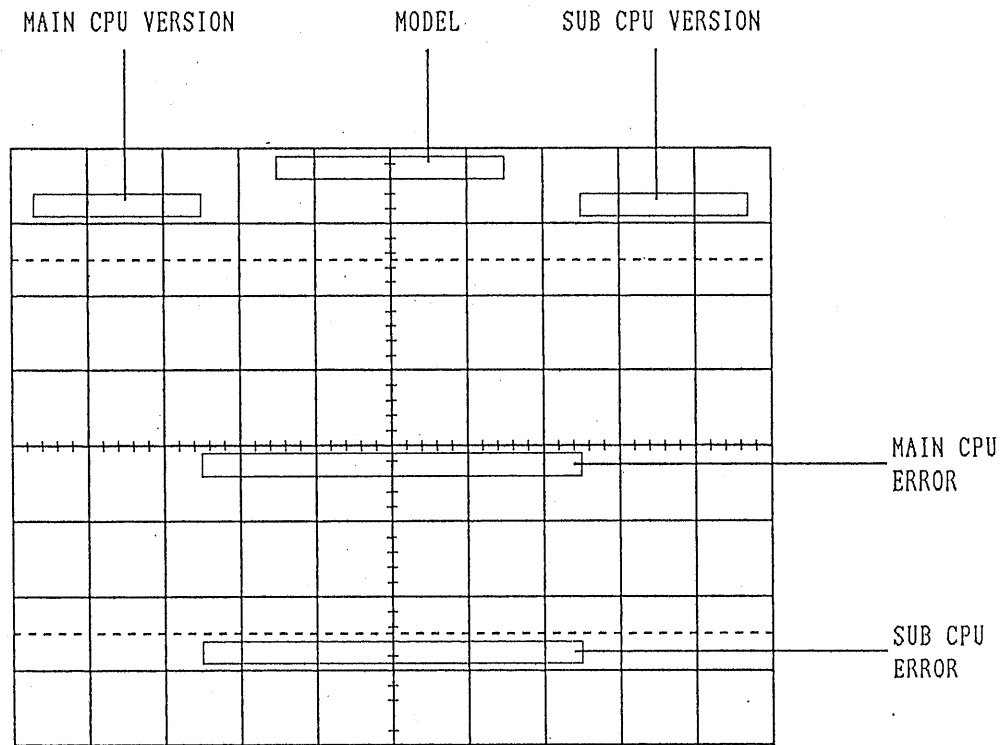

Figure 7.1 Diagnostic Messages Displayed on CRT
Other memory units than the above can be checked by pressing the READOUT control (33) while keeping the 2ND FUNCTION KEY (43) pressed. For COM7200A, COM7100A and COM7060A, the INTEN control (2) acts as a second function key as in the case of initial mode setting. In this case, messages as shown in Figure 7.1 are displayed on the CRT for about 3 seconds.